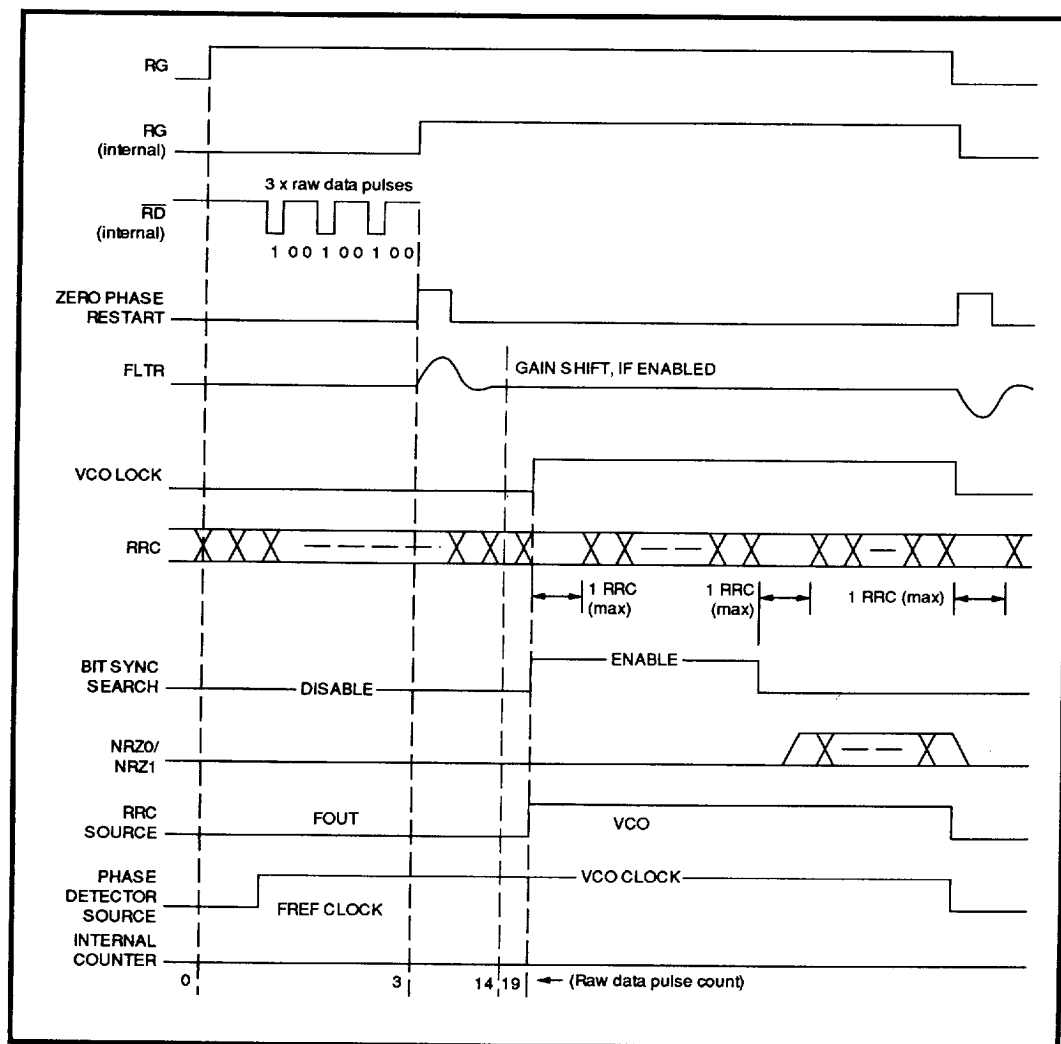

FIGURE 13: Read Mode Locking Sequence
One of two VCO locking modes will be entered depending on the state of the gain shift (GS) bit, or bit 1, in the Control B register. An internal read gate is asserted 3 DRD transitions after read gate is asserted, see Figure 13. The phase detector then enters a high gain mode of operation to support fast phase acquisition. After an internal counter counts a total of 14 transitions